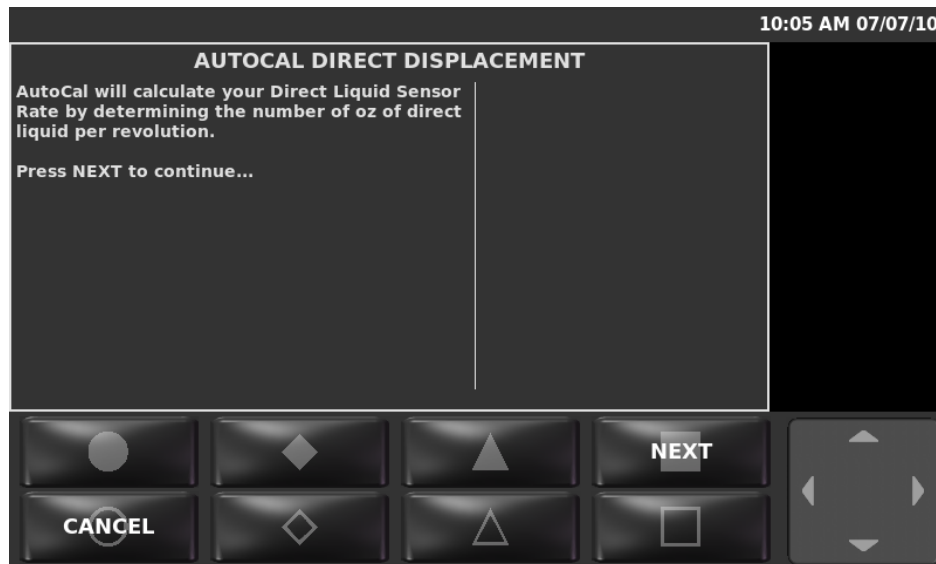

Figure 10: AutoCalibration Direct Liquid Material Displacement Wizard
- STEP 6: The AutoCal Displacement wizard will appear, as shown in Figure 10.